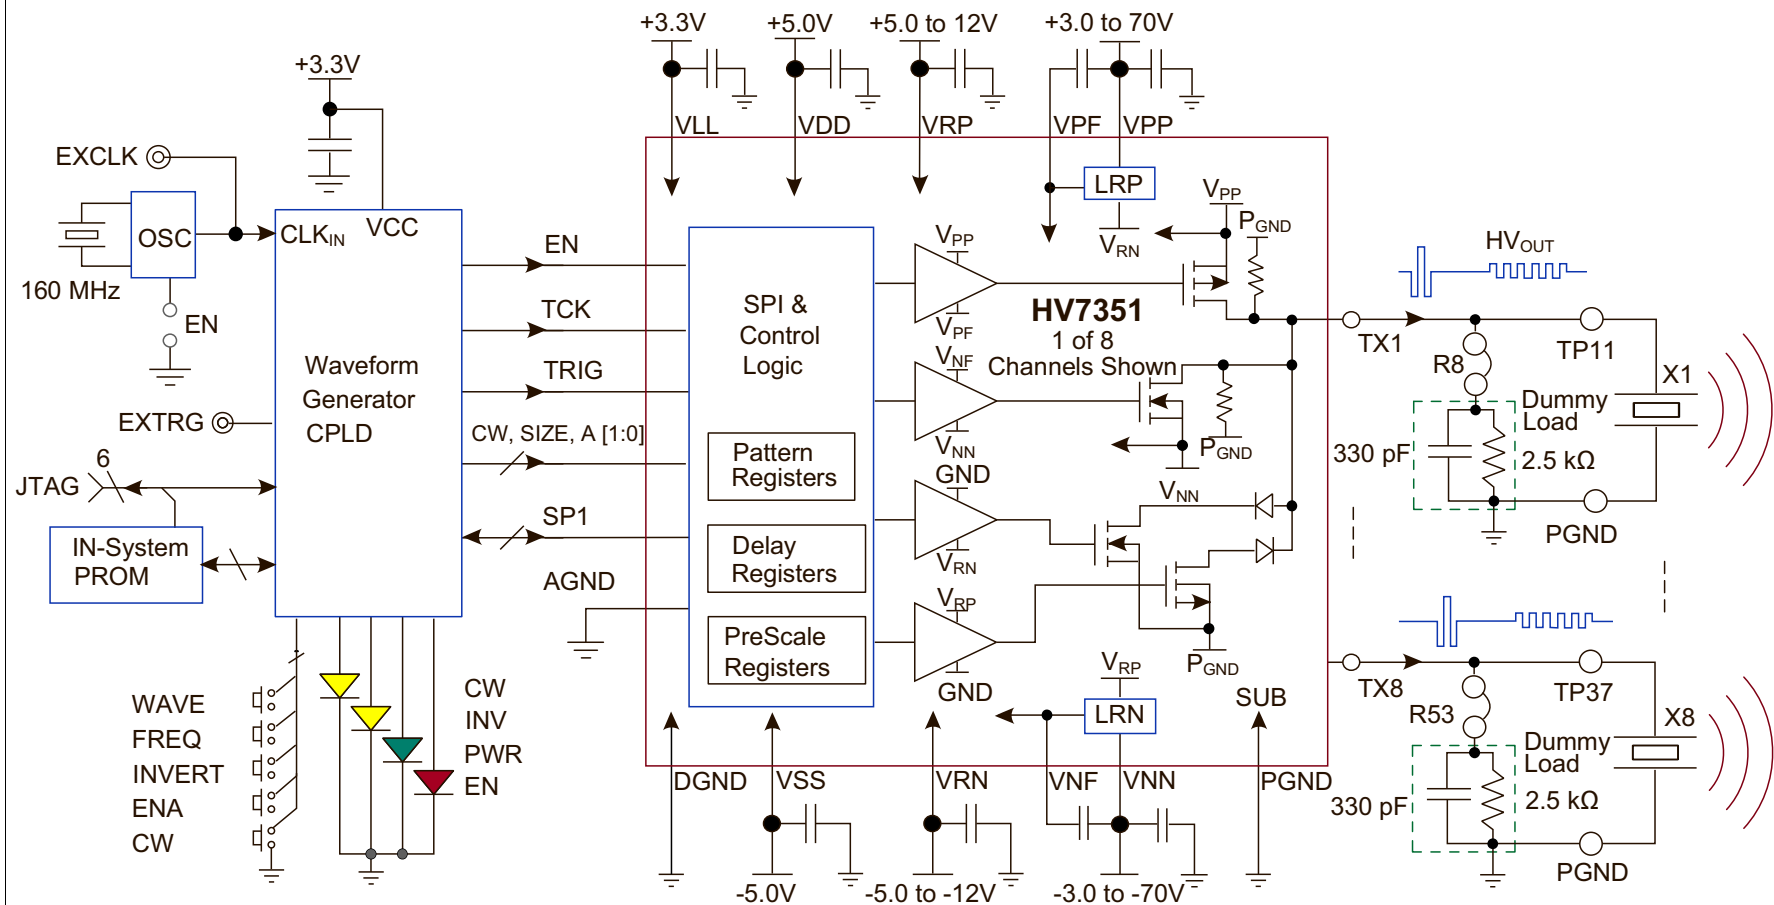

FIGURE 2-1: Power Supply and Load Connection Diagram.
1. Connect the supplies correctly to the board as shown in Figure 2-1.